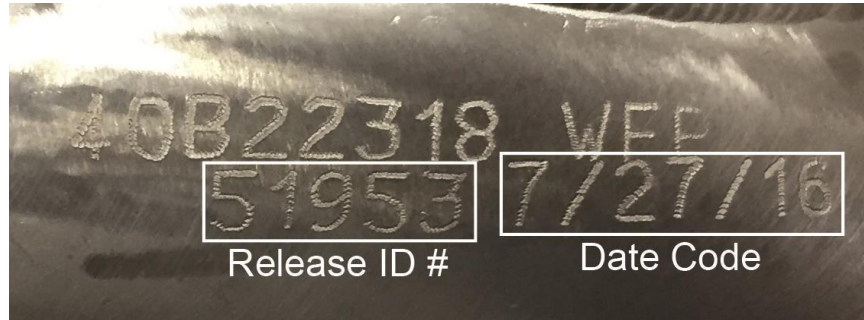

Figure 8
- The P/N, Release ID#, and a date code (Figure 8)